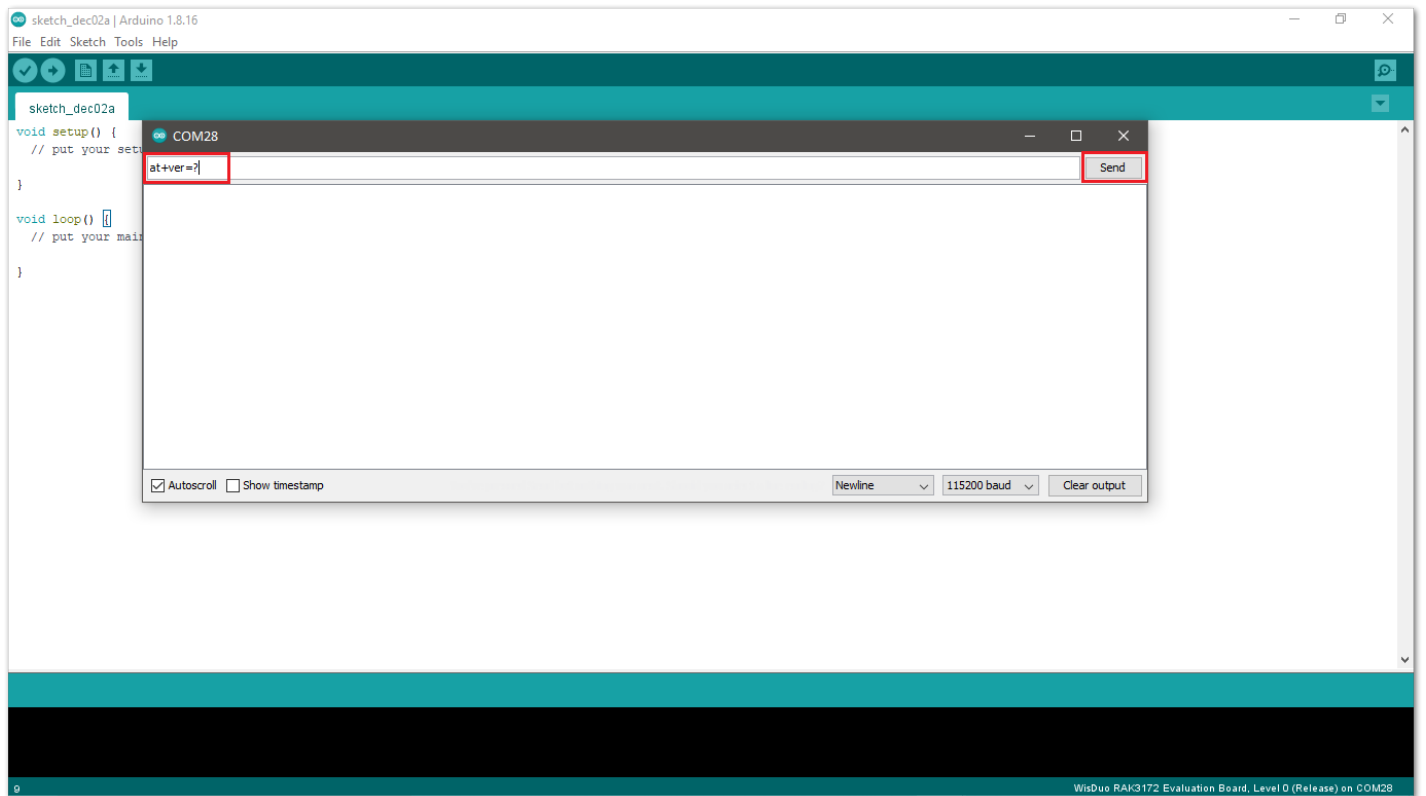

Figure 14: Send AT command
6. If the connection is successful, you can send AT Commands to RAK3172. For example: To check the RUI version, type `AT+VER=?` on the text area, then click on the **Send** button, as shown in **Figure 14**.